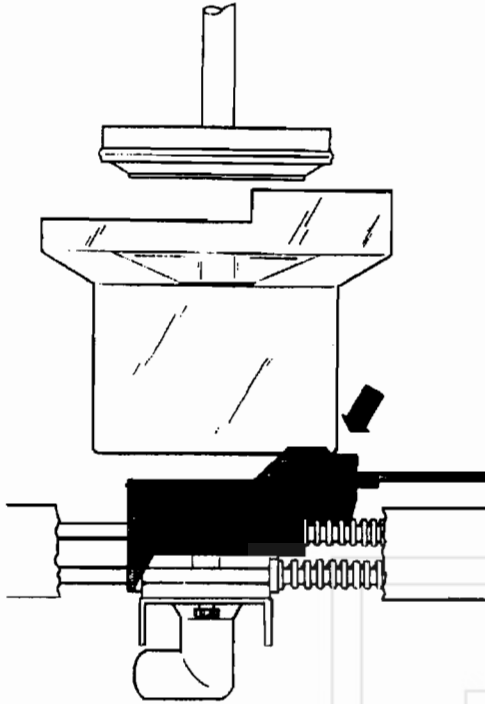

FIGURE 3.9
- A. The alignment shoulder of the carriage is slightly behind the rear vertical edge of the brew cylinder just as the cylinder starts down. (See FIGURE 3.9)
7. If the carriage was not correctly behind the cylinder and is being forced back out of the way or the cylinder is resting on top of the alignment shoulder of the brew carriage (see FIGURE 3.9) and causing the brew water to leak from between the cylinder and the brew chamber, then an adjustment of only one or two teeth to shorten the cable is needed - go to step 12. If the original adjustment has been lost, then a 'scratch' adjustment will have to be made - continue to step 8.